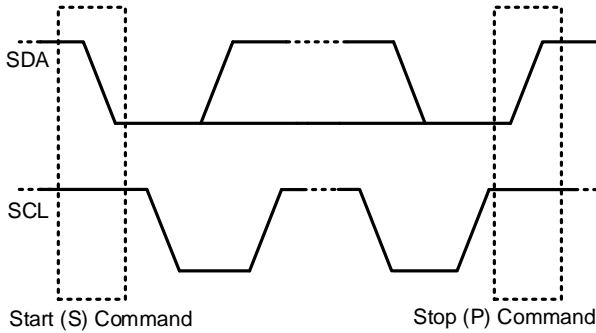

Figure 7: Start and Stop Commands
All transactions begin with a start (S) command and are terminated by a stop (P) command. Start and stop commands are always generated by the master. A start command is defined as a high to low transition on the SDA line while SCL is high. A stop command is defined as a low to high transition on the SDA line when the SCL is high (see Figure 7).